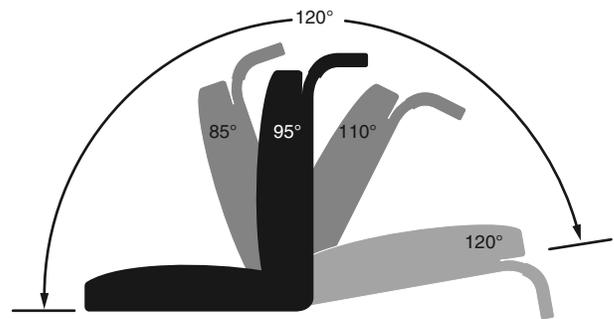

Figure 12. Manual Recline—Minimum and Maximum Recline Angles
If your TB-Flex Seat is equipped with the Manual Recline Option, you can adjust the seatback to angles ranging from the minimum recline position (85° from the seat base) to the maximum recline position (120° from the seat base). **See figure 12.** When the seat is reclined past 110°, the chair will be in full inhibit. Returning the seat to an angle of less than 110° will restore power to the motors.
2. Squeeze the recline release handle, and position the seatback to the desired angle. **See figure 12.**